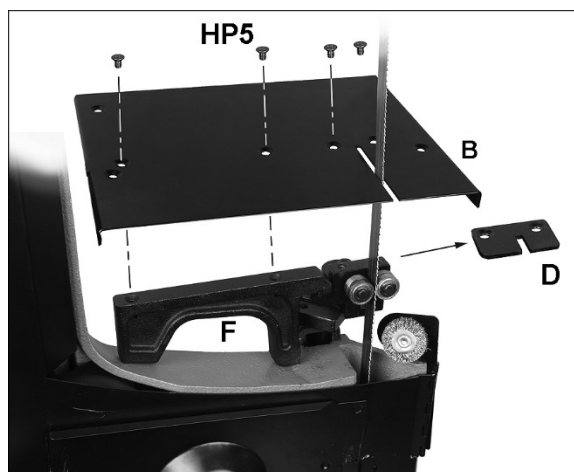

Figure 8-4: Installing Cutting Plate
6. Place smaller support (F, Figure 8-4) onto groove of blade guide, and adjust height of blade guide until support sits level on bow frame, as shown (712DV only).
7. Remove deflector plate (D).
8. Install table plate (B) and secure with four screws (for 712DV) or two screws (for 712V).